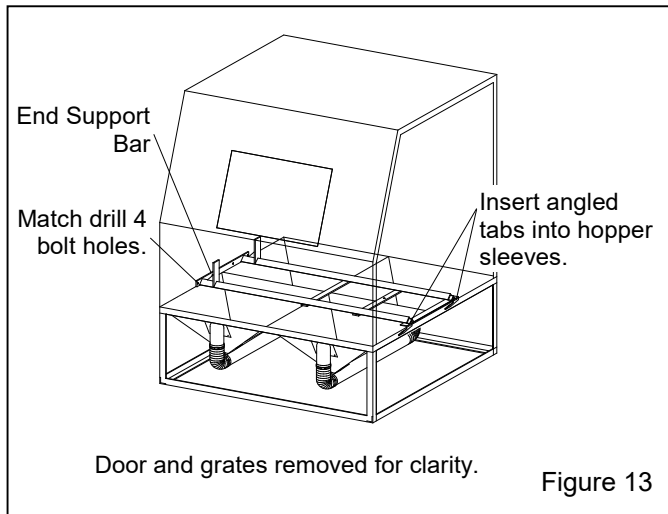

Figure 13
3.4.2 Install inside track – Figure 13
3.4.2.1 Lay the inside track on the cabinet hoppers and above the grate, as shown in Figure 13.